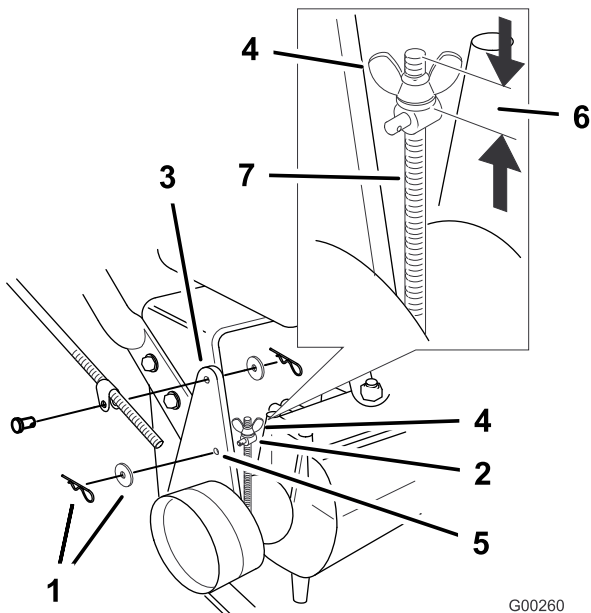

Figure 41
Note: For the initial adjustment, adjust the wing nut until it is 32 mm (1-1/4 inch) from the top of the rod (Figure 41).
6. To adjust the brake, remove the hairpin cotter and washer from the brake lever and trunnion (Figure 41).
9. Install the trunnion into hole F (Figure 41).
10. Secure trunnion to brake lever with washer and hairpin cotter (Figure 41).